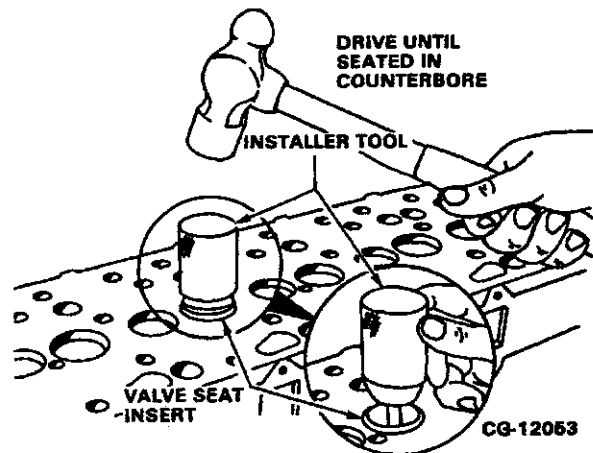

Figure 4.52. Install Valve Seat Insert
- Drive the insert into its counterbore using ZTSE-4164 for the intake and exhaust valve seat inserts. Refer to Figure 4.52.